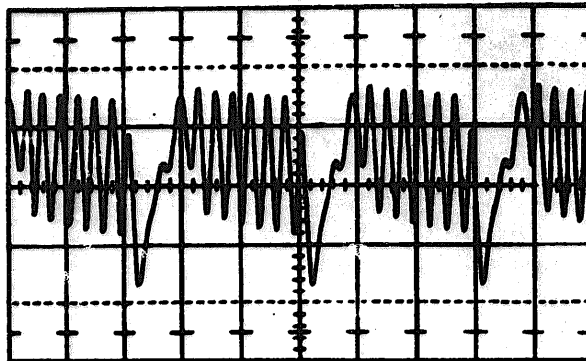

Figure 4-5. Waveform at TP2, A8
(1) Set Oscilloscope Vertical amplifier to 200 mV/cm and Horizontal to 0.1 μ sec/cm.
(2) The waveform peaks at the beginning and end of each wave train should be in the same position as shown in Figure 4-5. They will move in opposite directions as T2 on A8 is adjusted.
(3) Replace VFO Amplifier A2 and Sweep Module A14.